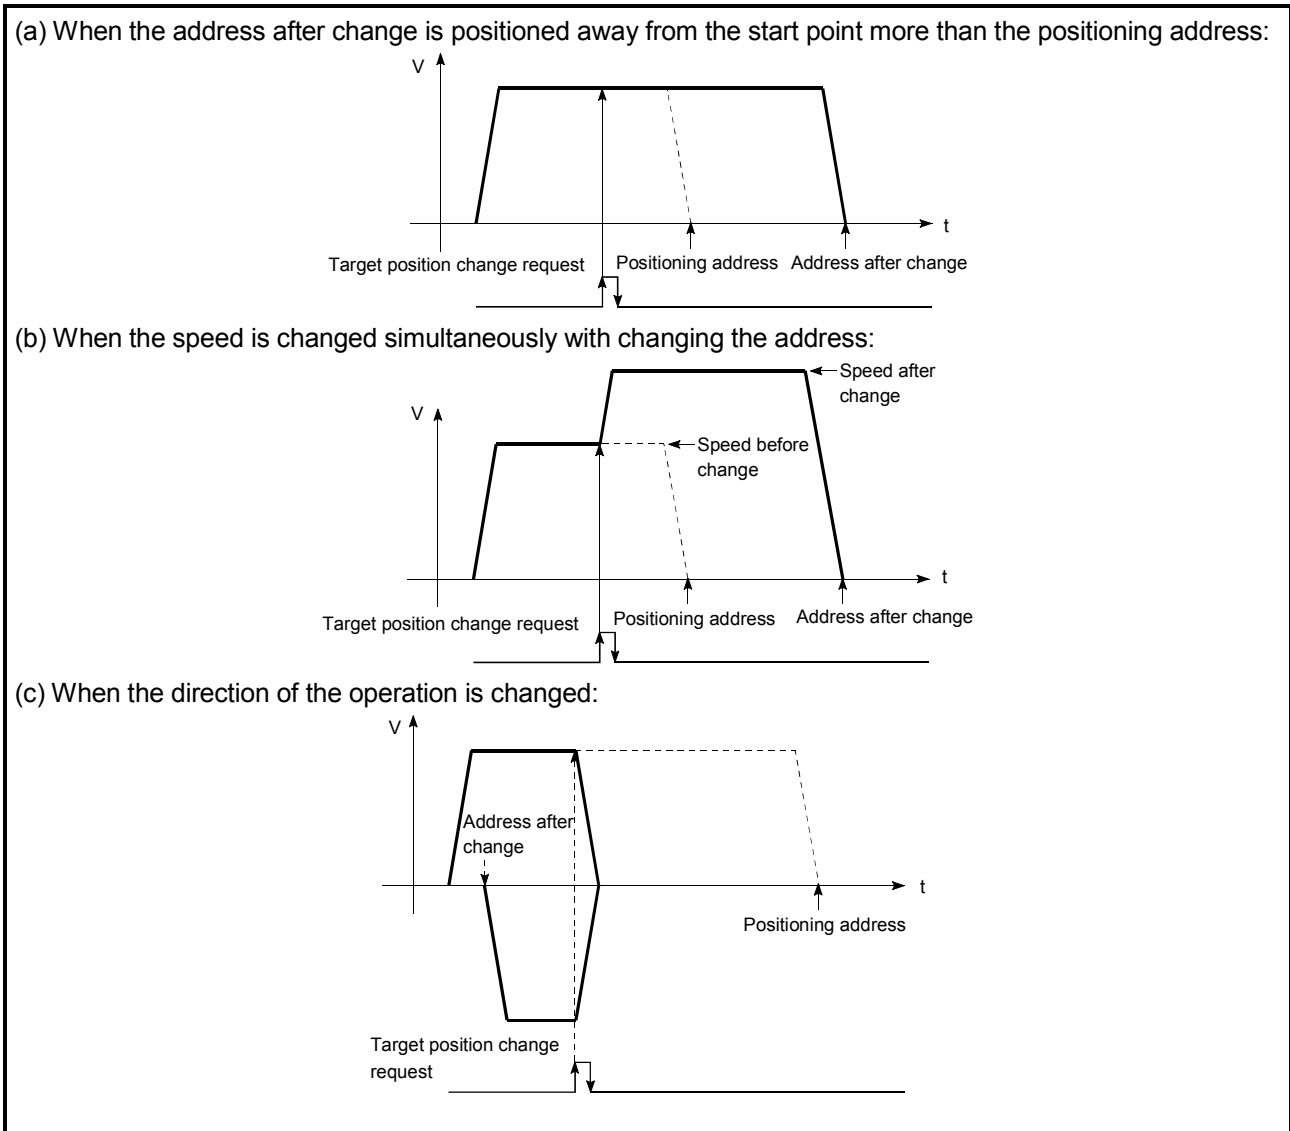

Fig. 13.33 Target position change operation
- (1) If the positioning movement direction from the stop position to a new target position is reversed, stop the operation once and then position to the new target position. (Refer to Fig. 13.33 (c).)
- (2) If a command speed exceeding the speed limit value is set to change the command speed, a warning will be given, and the new command speed will be the speed limit value (warning code: 501).